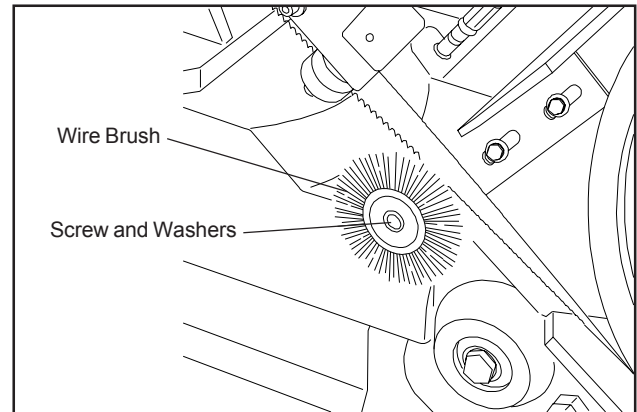

Figure 22: Wire brush
2. Remove the attaching screw, spring washer and washer. Remove and discard the brush (see figure 22).